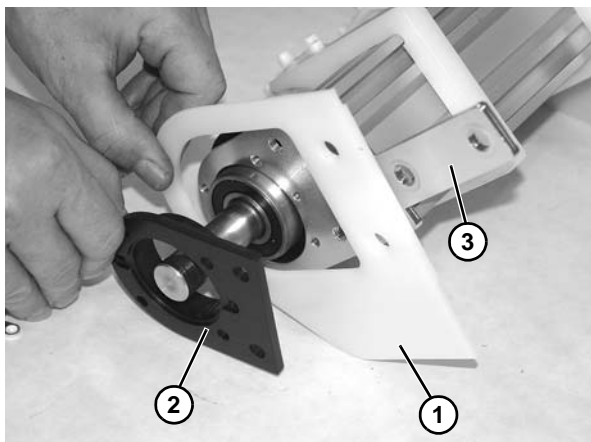

Figure 52
8. Remove drive filler plate (Figure 52, item 1) and bearing housing (Figure 52, item 2) from drive backing plate (Figure 52, item 3).